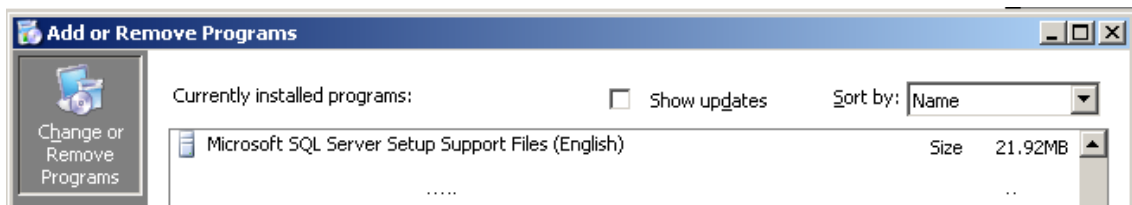

Figure II-28. Microsoft SQL Server Setup Support Files (English)
- 1) Open the **Add or Remove Programs** window in the Windows Control Panel to see if "Microsoft SQL Server Setup Support Files" appears (Figure II-28). Note: for Windows Vista, this function is accessible from **Control Panel > Programs and Features**.